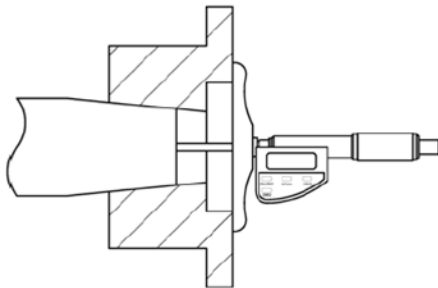

Figure 3 - Shaft end to hub face measurement example
- 7.4. Use a depth micrometer to measure the distance from the shaft end to the hub face, as shown in Figure 3. Record the dimension